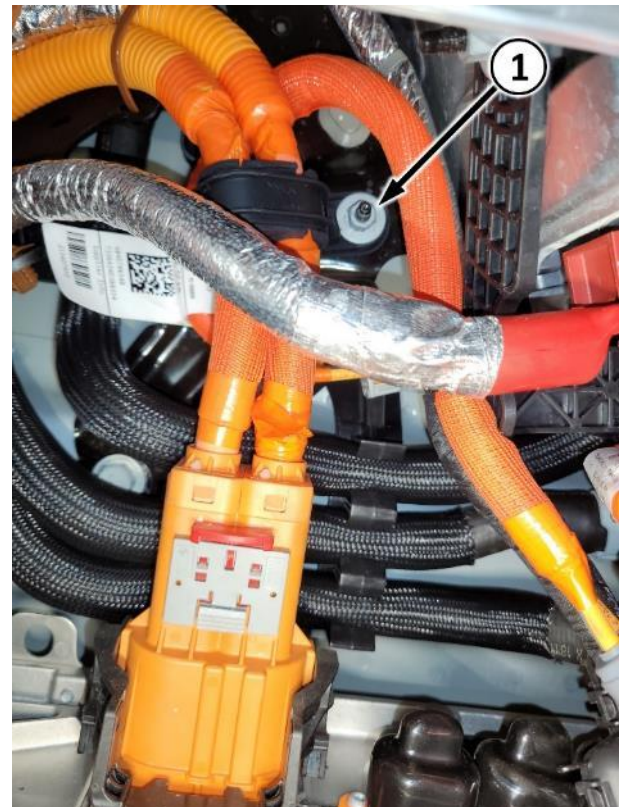

Figure 43 – HV Battery - Primary
25. Remove the fastener securing the HV battery cable (Figure 43)
65. Install the fastener securing the HV battery cable (Figure 43)